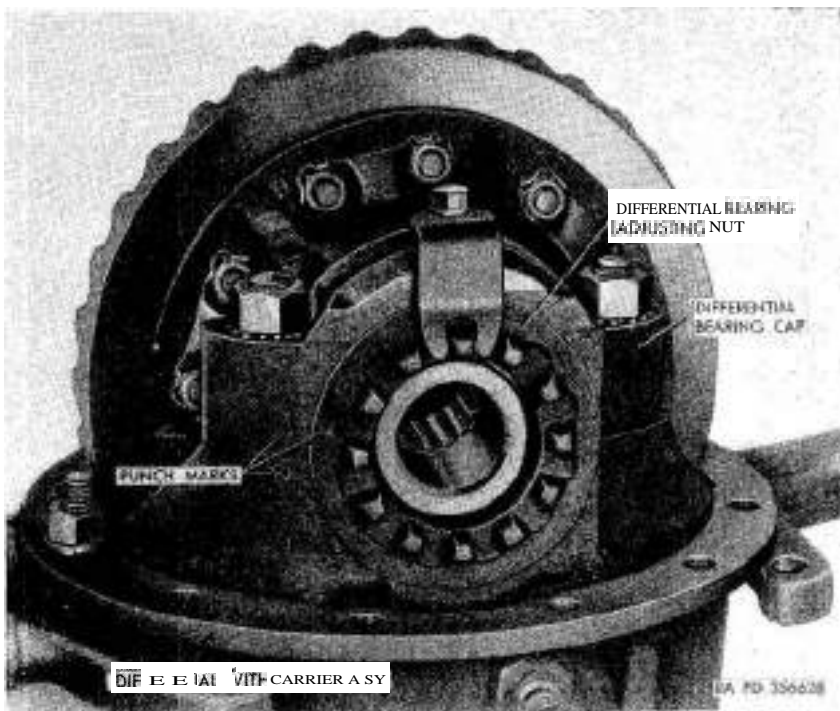

Figure 78. Locating punch marks on differential with carrier assembly.
- (1) Apply locating punch marks (fig. 78) on drive pinion carrier assembly, differential bearing caps (Q and AE),